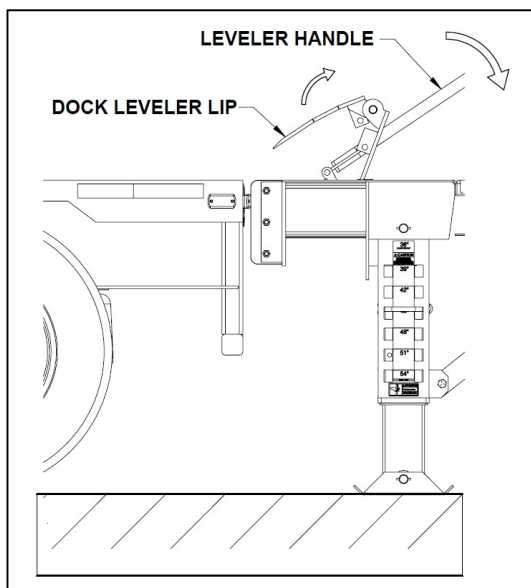

Figure 10b. Raising Dock Leveler
2. Pull back on the handle until the leveler is fully raised (Figure 10b).